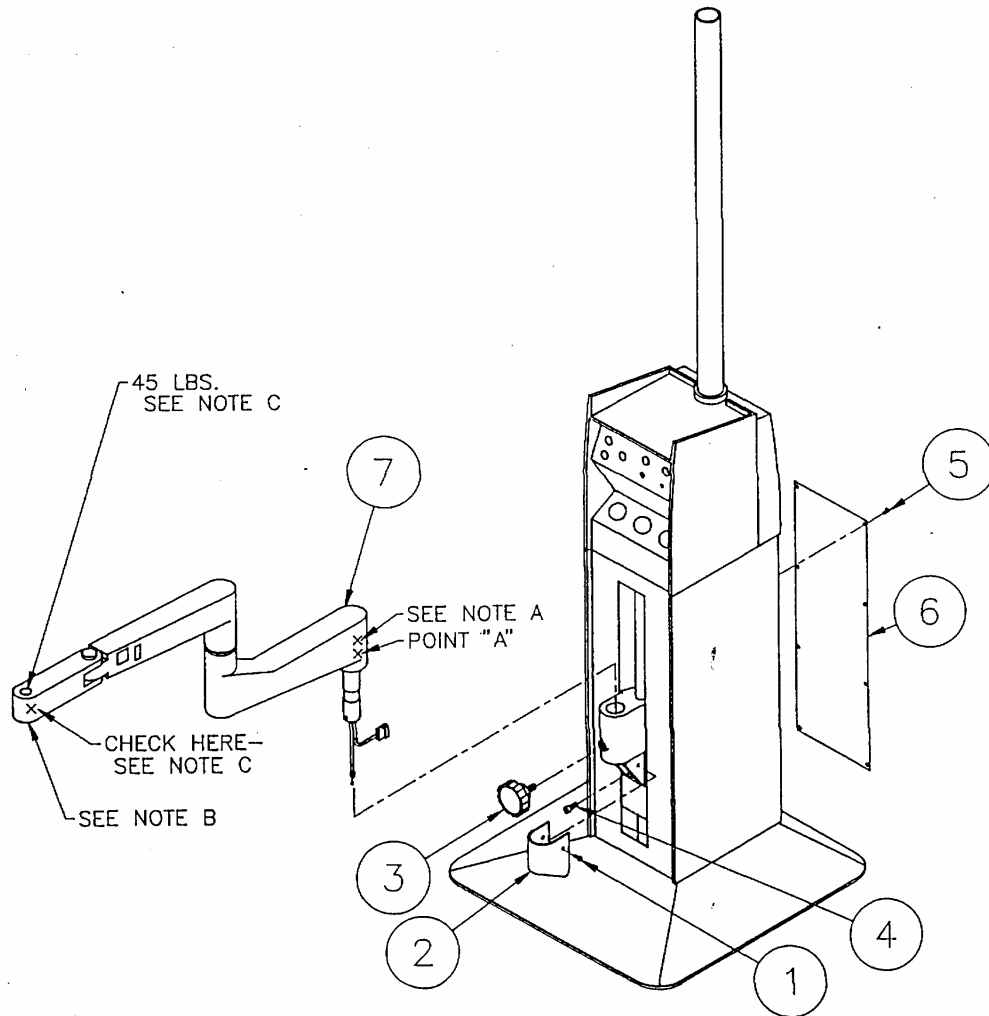

FIGURE 1
1. Using Phillips screwdriver remove item 1 {figure 1} (machine screw #10-24 x3/8) from the plastic lock cover. *Note: some covers are held on by two screws and some with four screws.*
2. Remove item 3, hand wheel {figure 1} by hand rotating counterclockwise.
3. Remove item 2, lock cover {figure 1}.
4. Remove item 4 {figure 1} (socket head cap screw) using a 3/16" Allen wrench.
5. Using Phillips screw driver, remove 8 item 5 (#8-32x3/8) back cover screws.
13. Gently pull the slit lamp arm assembly item 7 {figure 1} out of roller frame.
10. Gently pull the slit lamp arm assembly item 7 {figure 1} out of roller frame.